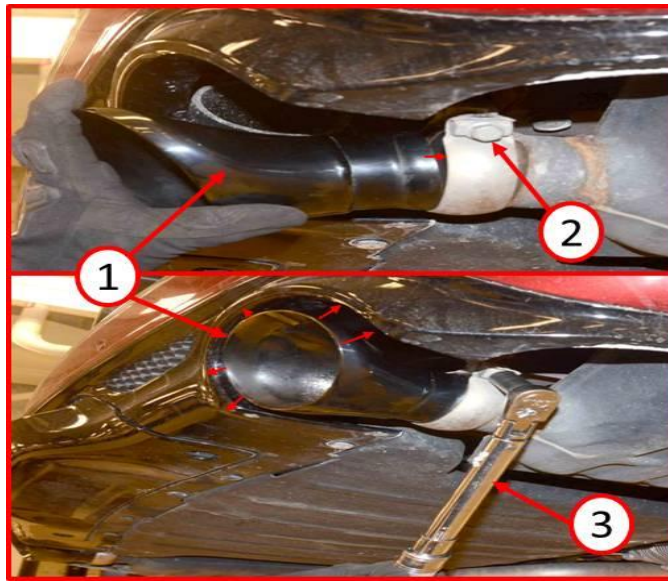

Fig. 2 Install New Exhaust Tips
3. Install the new exhaust tip P/N 05181770AB (1) on the left and right side muffler outlets and snug the exhaust clamp bolts (2) so that the exhaust tip can still be adjusted (Fig. 2).
4. Center the exhaust tip (1) in the rear fascia opening and tighten the exhaust clamp bolt (2) using a torque wrench (3) to 22ft/lbs.(30NM)(Fig. 2).